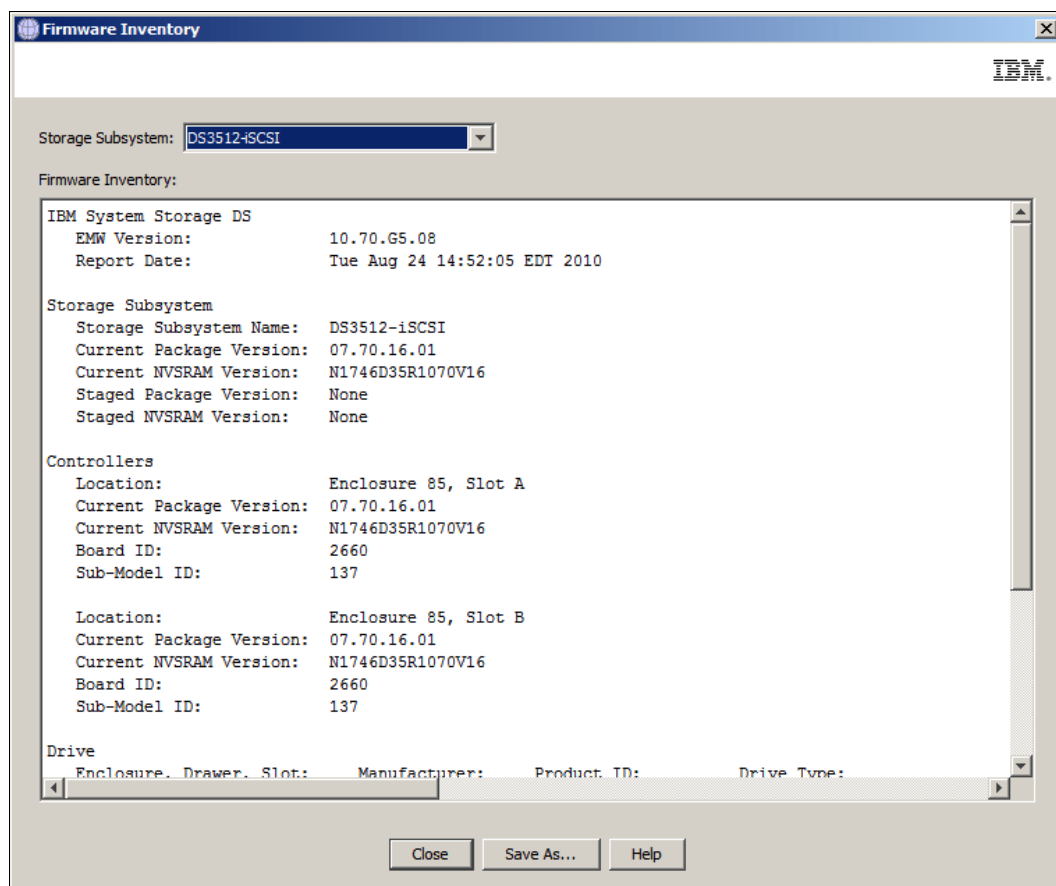

Figure 14-35 Enterprise Management firmware inventory
1. Click the **Tools** → **Firmware Inventory** menu command from the Enterprise Management window. Figure 14-35 shows the Firmware Inventory window that displays.